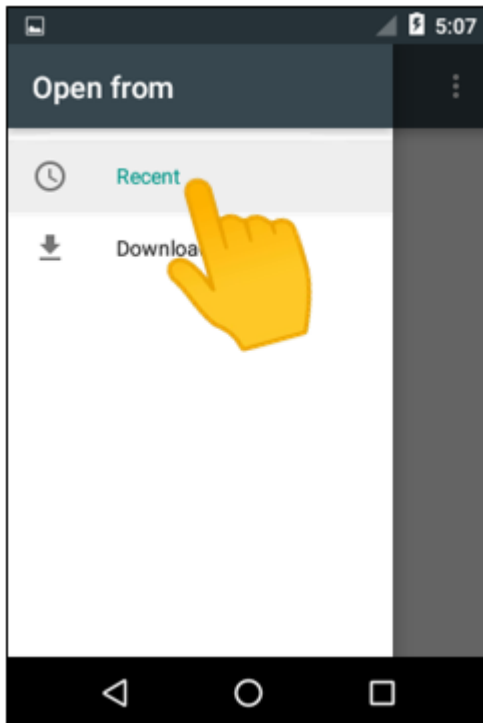

Figure 91: Tap Recent
13. Tap **Recent** (see **Figure 91**).